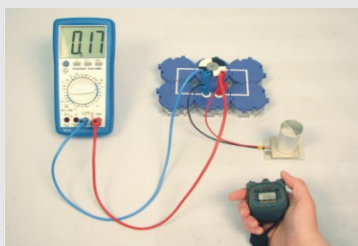

Figure 7
**7.** Place the cup on the thermogenerator and start the stopwatch (Fig. 7). Observe the meter and the motor, possibly prodding the motor. Note the voltage and your observation at 15 s intervals.